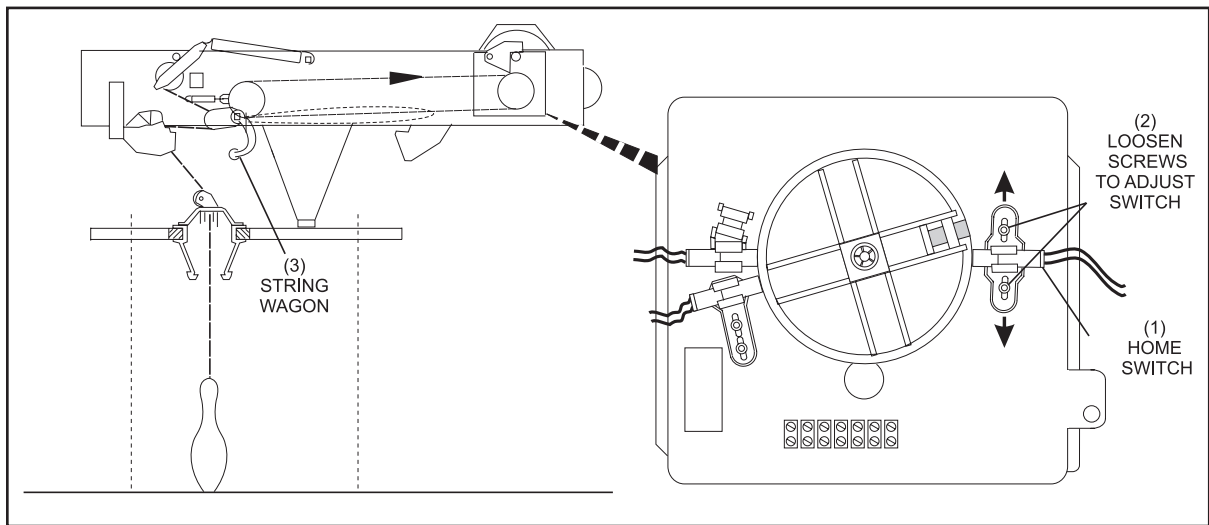

Figure 4-5. String Wagon Position and Home Switch Adjustment
3. If adjustment is needed, loosen the switch mounting screws and position the switch as desired. Refer to *Figure 4-5*.